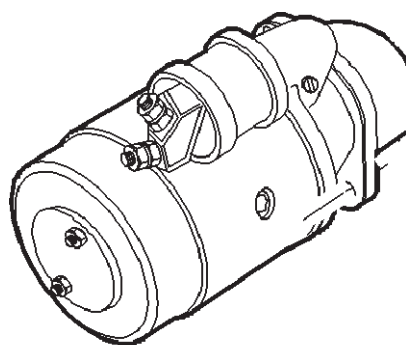

Fig. 6.56
6.46 STARTER MOTOR (FIG. 6.56)